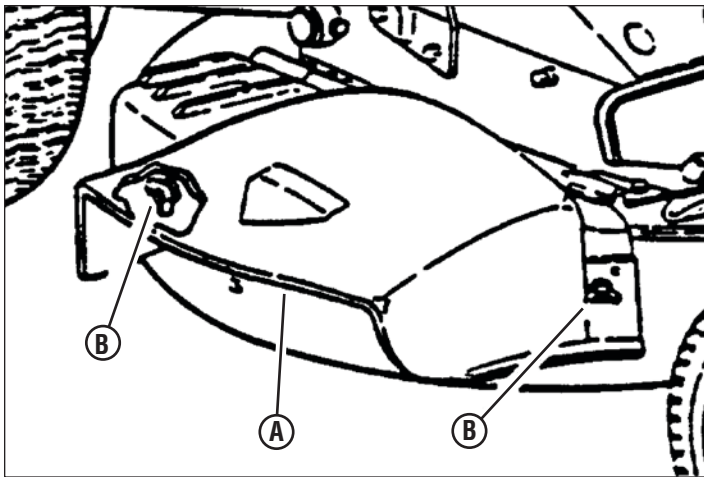

Figure 19
The discharge deflector (A, Figure 19) on some models is shipped in the "UP" position. Remove the rubber band, lower the discharge deflector, and secure to the deck with the carriage bolts, flat washers, and wing nuts (B) furnished in the deck.